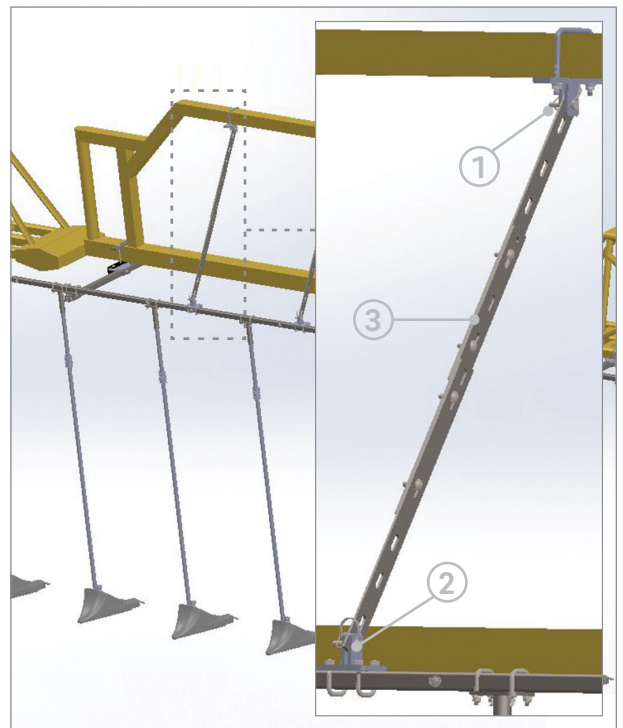

Figure 11
Step 7 Install stainless steel set screw and jam nut assembly (4). See Figure 11 for detail. Repeat for the remaining mount assemblies on the primary boom.